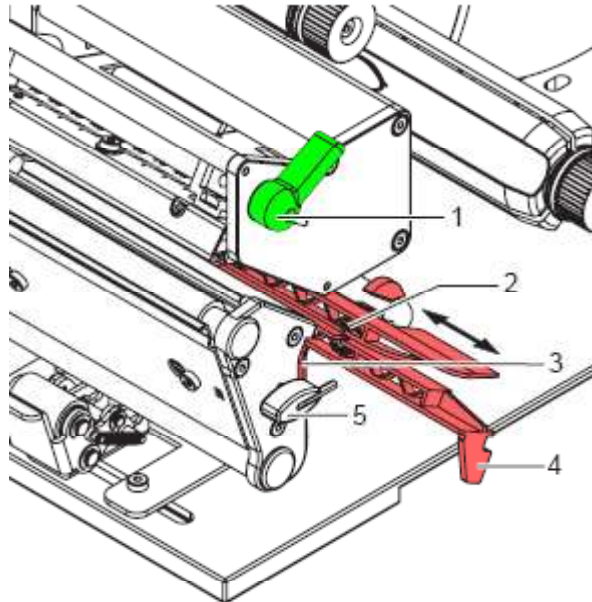

Figure 20
1. Turn the lever (1, Figure 20) counter clockwise to lift up the printhead.